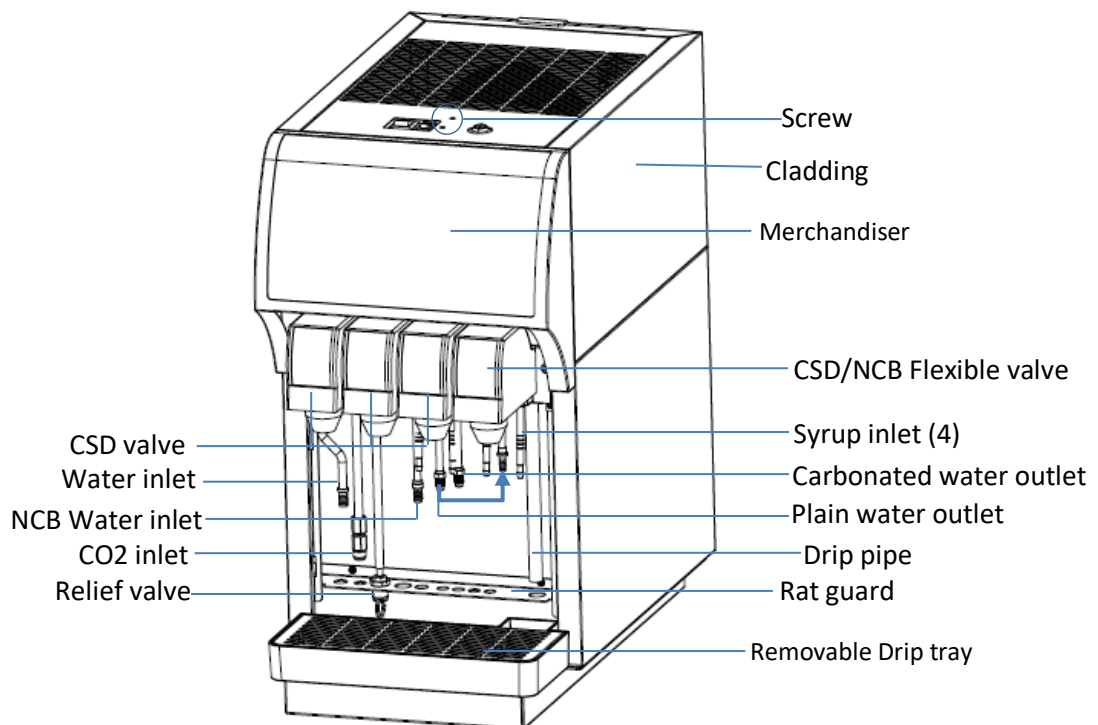

Figure 4
Note: The figure 4 is for 3CSD+1Flex. model. The pipeline interfaces and valve
1. Connect the syrup inlet pipe, water inlet pipe and CO2 inlet pipe according to the labels on the machine, and fasten them with clamps. Refer to figure 4 for the position of pipeline interface (different models may be slightly different, refer to the actual machine label). The pipeline can be led in from the front of the machine or from the back of the machine. No matter which kind of pipeline needs to pass through the rat guard in front of the machine before connecting. If the pipe is led in from the back of the machine, it is necessary to remove the cover plate of the pipe hole at the back of the machine and thread the pipe from the hole into the front of the machine for connection.